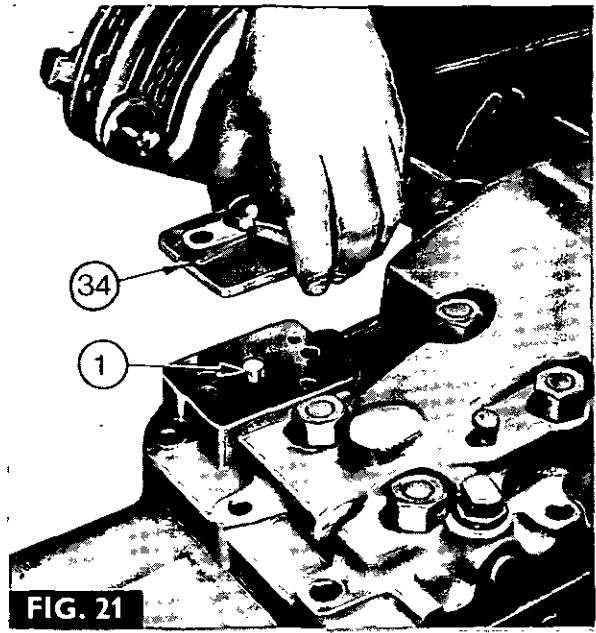
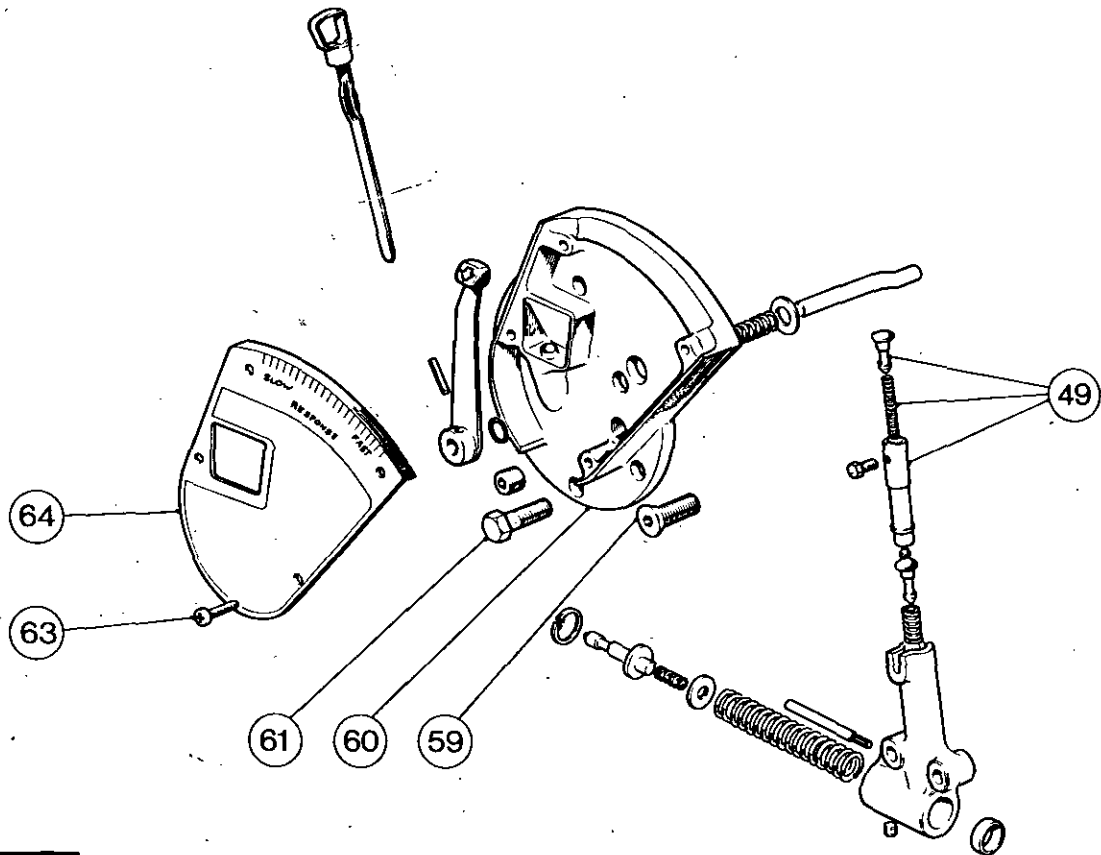
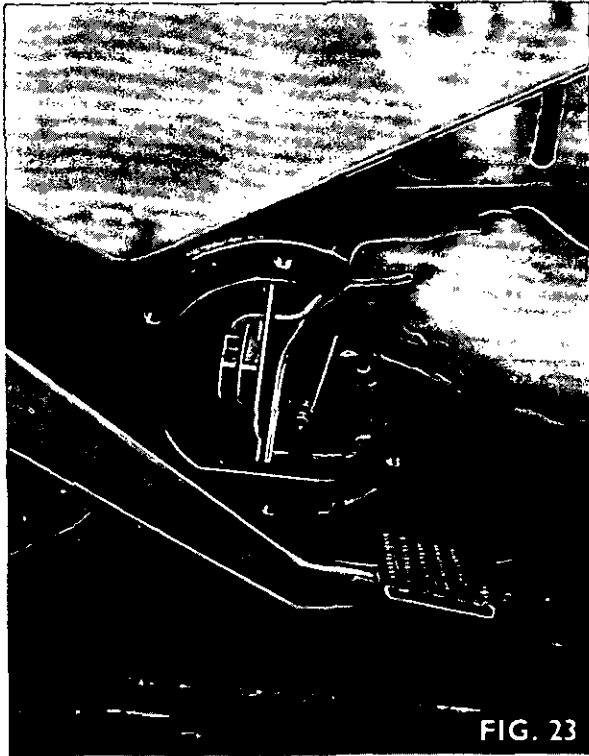

FIG. 21
FIG. 22
FIG. 23
6. Fig. 21. Remove the two bolts and spring washers securing the stand pipe cap (34) to the lift cover and remove the cap.
7. Disconnect the stand pipe (1) from the hydraulic pump by lifting the stand pipe slightly.
9. Fig. 22. Remove the four screws (63) securing the response control cover plate (64), and remove the plate.
10. Remove the five bolts (61) and the screw (59) securing the inspection cover (60) to the centre housing and remove the cover.
11. Fig. 23. Remove the valve actuating roller using tool MF 271 as shown.
12. Fig. 22. Suitably retain the dashpot plunger (49) to prevent it from dropping out when the lift cover is removed.
7. Fig. 23. Refit the valve actuating roller using tool MF 271 as shown.
8. Fig. 21. Centralise and locate the stand pipe (1) in the pump assembly.
10. Fig. 21. Refit the stand pipe cap (34) with a new 'O' ring and secure with the two bolts and spring washers.